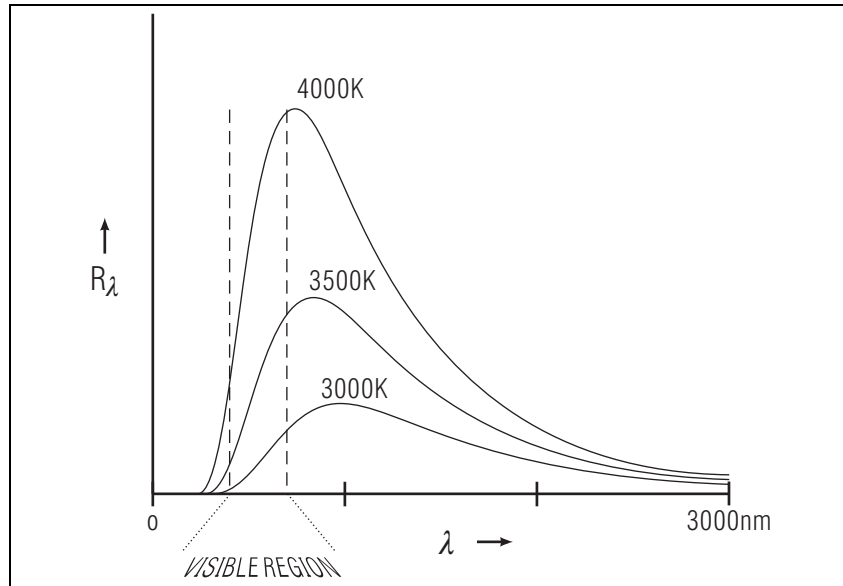

Figure 1. The spectral emittance of an ideal emitter at three different temperatures. The visible region is expanded in Fig. 2.
The spectral emittance of Eq. (1) is plotted in Fig.1 for three temperatures.